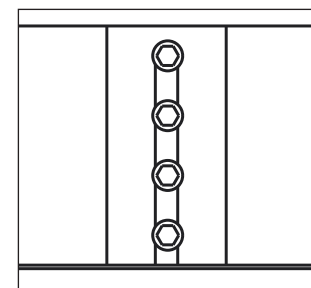

Figure 6: Clearance Holes
- Drill four 0.266" (~17/64") clearance holes through the front and rear walls of the tube at each marked stud location. Refer to **Figure 6**.